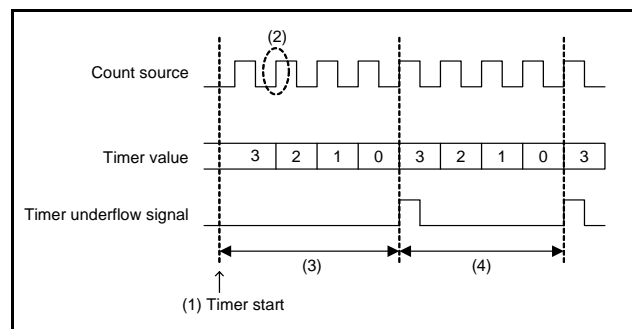

**Fig 35. Timer count start timing and count time when operation starts**
Count starts from the first rising edge of the count source (2) in Figure 35 after prescaler and timer operations start (1) in Figure 35.
Time to first underflow (3) in Figure 35 is shorter (for up to 1 period of the count source) than time among next underflow (4) in Figure 35 by the timing to start the timer and count source operations after count starts.